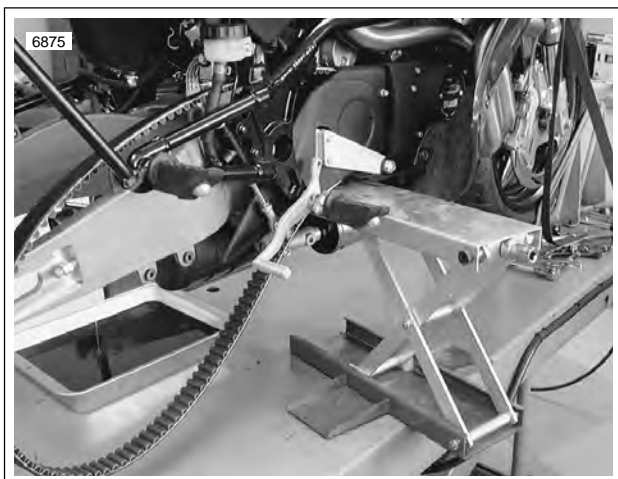

Figure 2-65. Scissors Jack
5. See Figure 2-65. Place a jack under the crankcase.